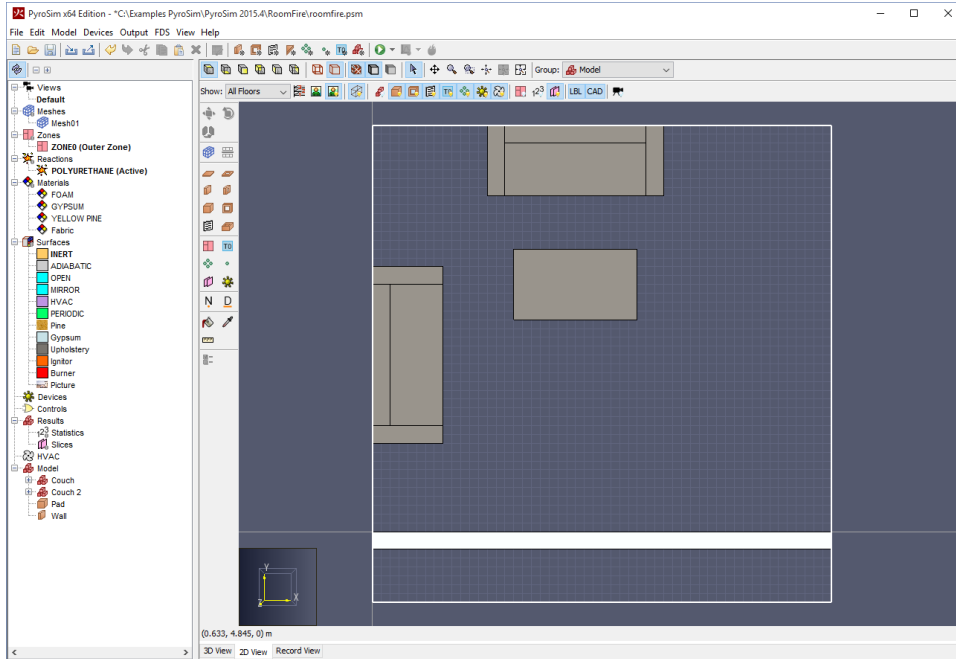

Figure 7. Drawing the wall
4. With the wall tool draw the wall from left to right along the $Y=0$ line. Press the CTRL key to flip the wall to the lower part of the model, Figure 7.